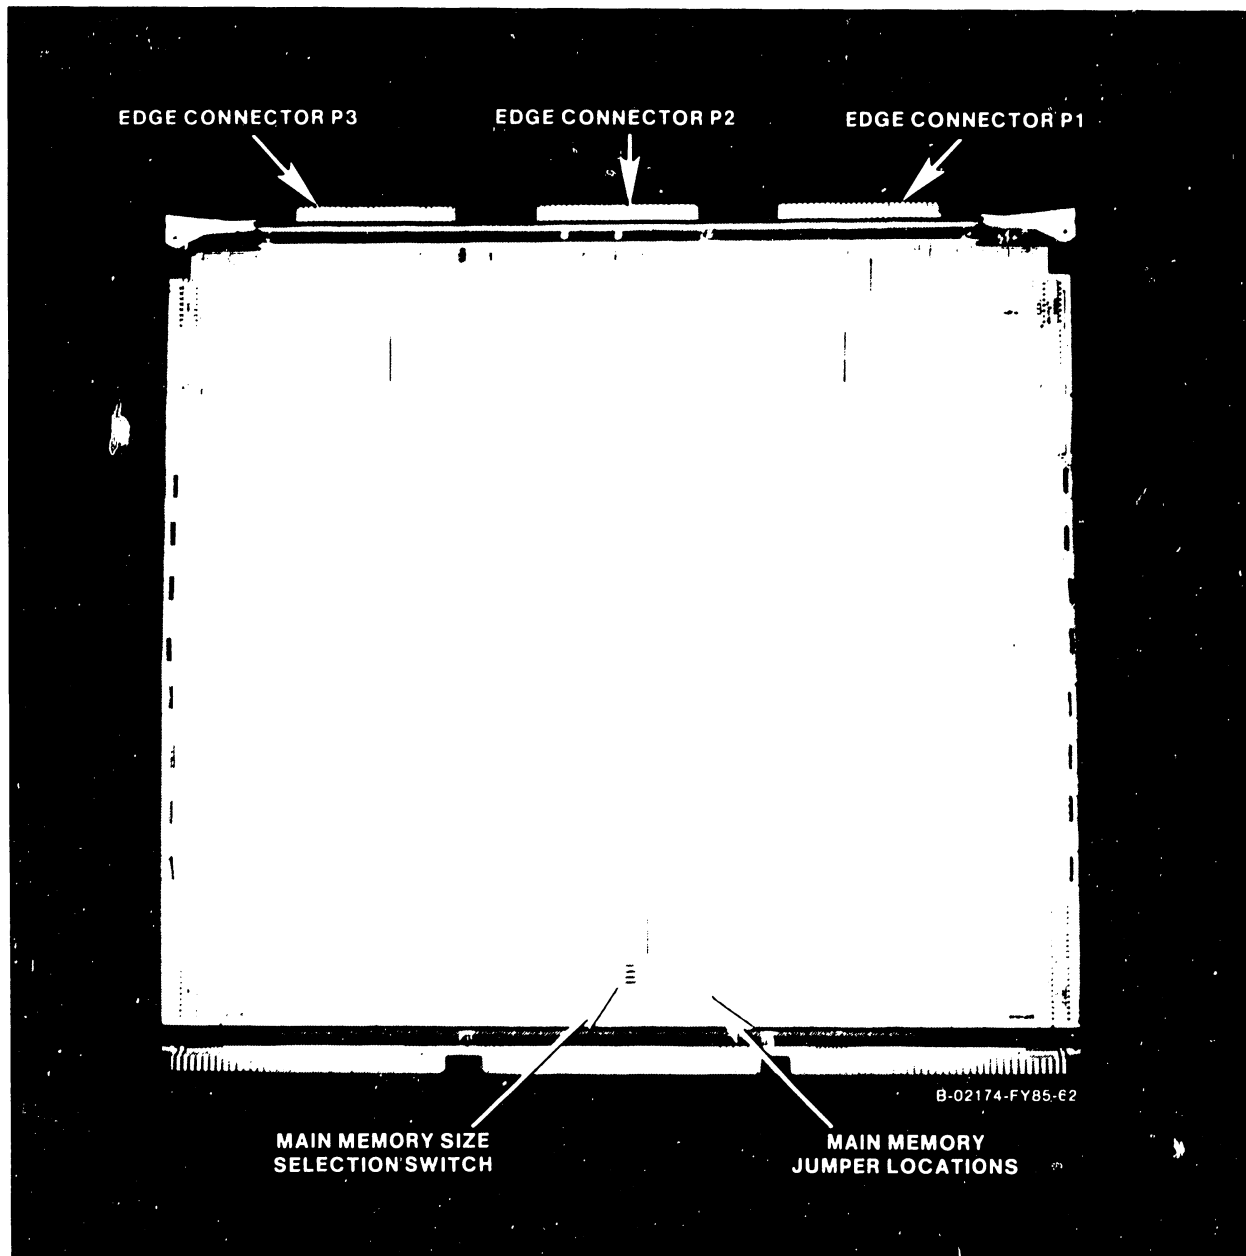

Figure 5-7. Main Memory (1M byte) Printed Circuit Board
2. Carefully remove the 210-8599 Main Memory PCB (figure 5-7) from Motherboard slot number 1 by lifting the snap-locks to free the PCB from the Motherboard connectors. Once the board is free of the connectors, ease it straight up in the board guides and out of the board cage.